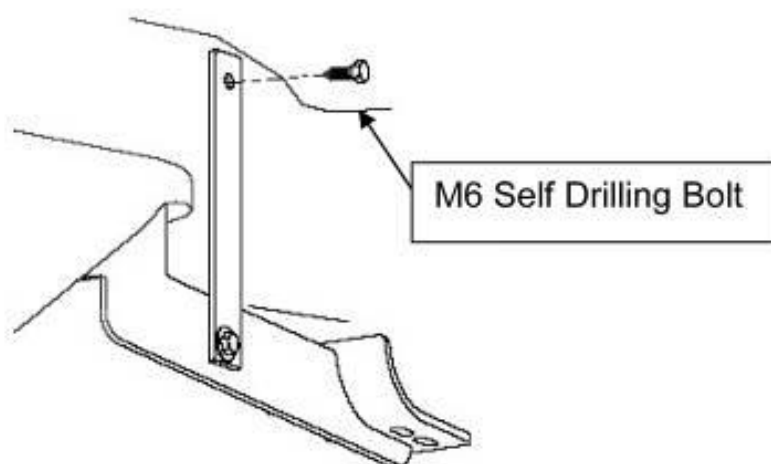

Figure 2. Passenger Side Support Brace
3. Install support brace to front & rear bracket as shown. Attach support brace to vehicle body using M6 self drilling bolts (see Fig. 2).